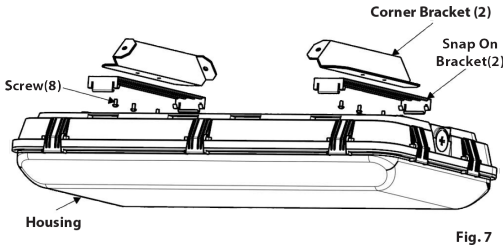

Fig. 7
1. Use appropriate mounting hardware (not supplied) to secure the **Corner Bracket (2)** to mounting surface as shown in **Fig. 7**. **Corner Bracket** must face towards each other. Recommended **Corner Bracket** distance center to center is 14-21/31" (for 2 FT) and 38-25/43" (for 4 ft).
2. Secure **Snap On Bracket (2)** (supplied standard with Housing) to **Corner Bracket (2)** with **Screws** provided as shown in **Fig. 7**.